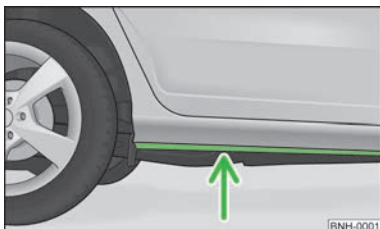

Fig. 94
- Therefore determine the depth of the water before driving through bodies of water. The water level must fit around the strut on the side member as a maximum » Fig. 94;